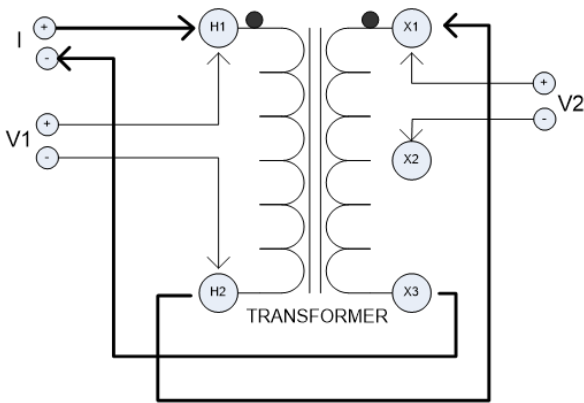

Figure 3: Dual-Winding Test
4. Connect "V1" voltage leads input to H1 and H2 terminals of test transformer. See Figure 3.
5. Connect "V2" voltage leads input to X1 and X2 terminals of test transformer. See Figure 3.
7. Press  to initiate current flow. The top display (I) indicates current output and the $\Omega 1$ display indicates resistance of primary winding and $\Omega 2$ display indicates the resistance of the secondary winding specimen.